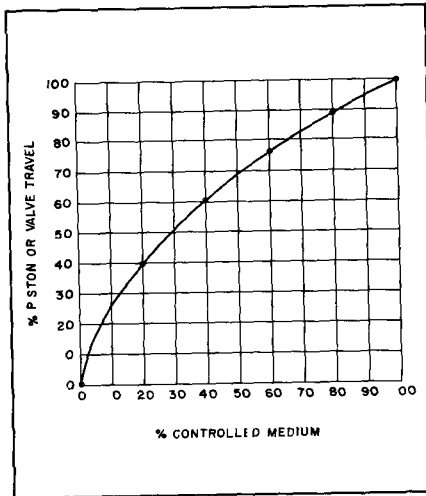

FIGURE 15 Regulated Device Characteristic
- 1 Use B (straight line) cam to determine actual controlled medium versus piston (or valve) characteristic (Figure 15).